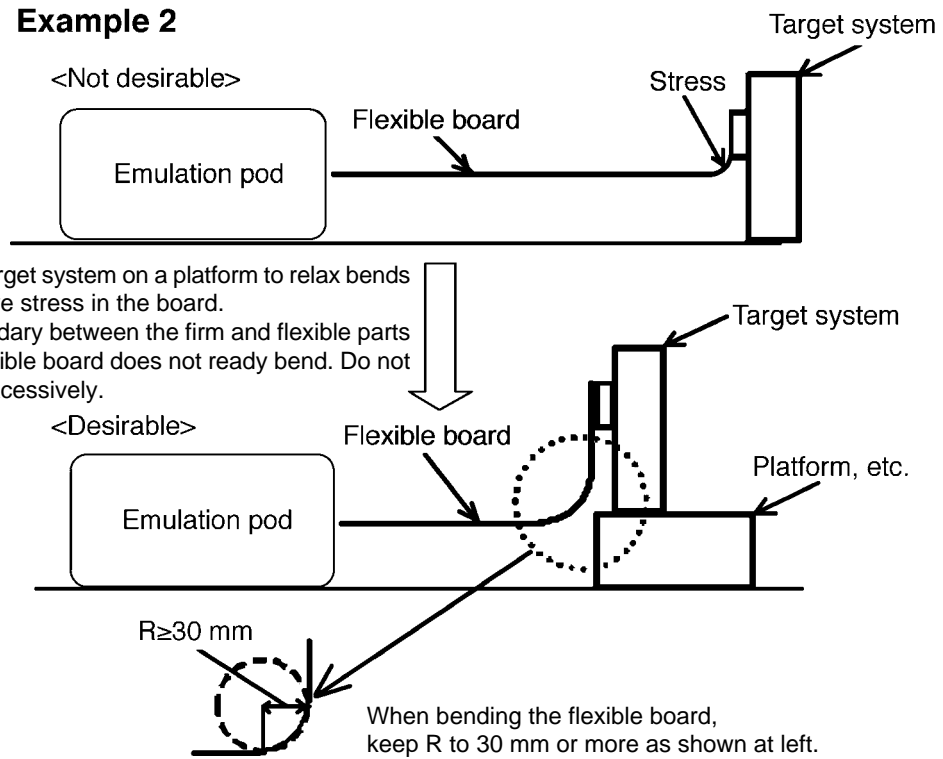

Figure 1.1 Note on handling the flexible cable (FLX100)
- The flexible cable (FLX120-RPD) for connecting to the emulator main unit and the flexible cable (FLX100) for connecting the target system are different from earlier models. The slits make them more flexible. However, excessive flexing or force may break conductors. "Figure 1.1 Note on handling the flexible cable (FLX100)" (next page) shows the examples of excessively flexed cables and how to handle them.